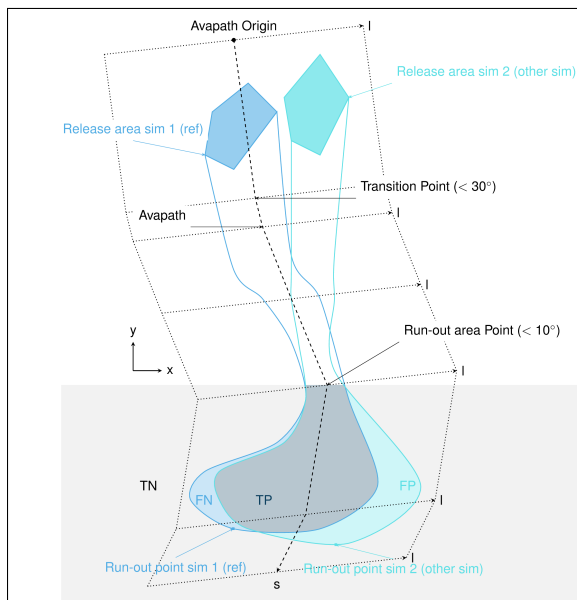
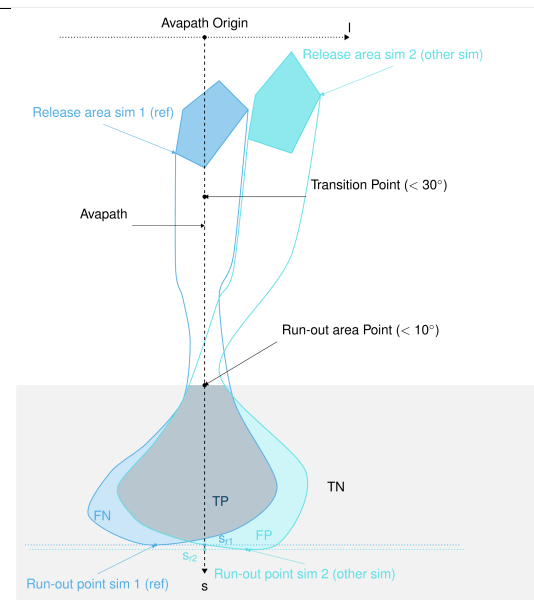
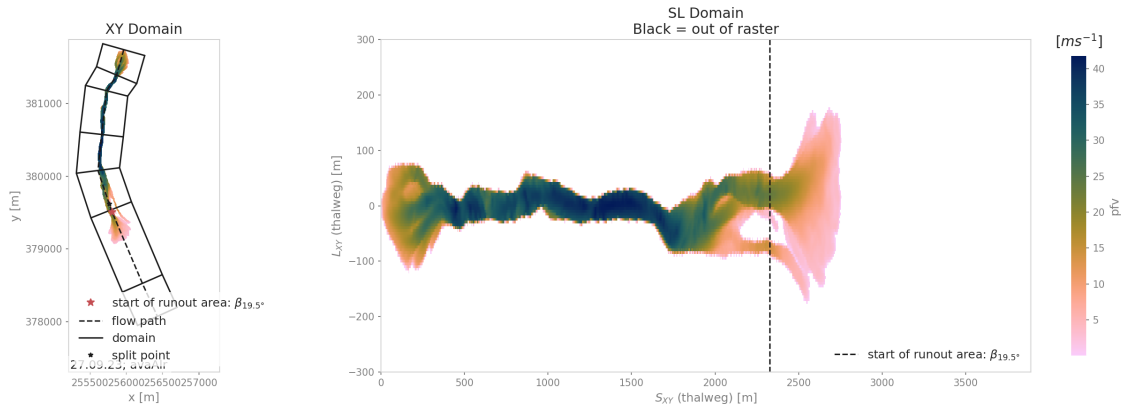

Fig. 5.13: In the real coordinate system (x,y)
Fig. 5.14: In the new coordinate system (s,l)
Fig. 5.15: Alr avalanche coordinate transformation and peak pressure field reprojection.
ana3AIMEC (Automated Indicator based Model Evaluation and Comparison, [Fis13]) is a post-processing module to analyze and compare results from avalanche simulations. For this purpose, avalanche simulation results are transformed into an avalanche *thalweg* following coordinate system (see Fig. 5.13, Fig. 5.14, Fig. 5.15), which enables the comparison of different simulations (for example varying parameter sets, or performed with different models) of the same avalanche catchment, in a standardized way.
There is the option to define a runout area for the analysis, which is based on the slope angle of the avalanche thalweg. This can be defined in the Aimec configuration by setting the *defineRunoutArea* flag to True. The start of runout area is then determined by finding the first point on the thalweg profile where the slope angle falls below the *startOfRunoutAreaAngle* value and all points upslope of the a additionally provided split point are ignored (see Fig. 5.15). This functionality requires an additional input:
- TP (true positive) zone: green zone on Fig. 5.14 , sim1 = True sim2 = True
- FP (false positive) zone: blue zone on Fig. 5.14 , sim1 = False sim2 = True
- FN (false negative) zone: red zone on Fig. 5.14 , sim1 = True sim2 = False
- TN (true negative) zone: gray zone on Fig. 5.14 , sim1 = False sim2 = False
- “DomainTransformation” shows the computational domain (xy) on the left and new thalweg-following domain (sl) on the right (Fig. 5.15)